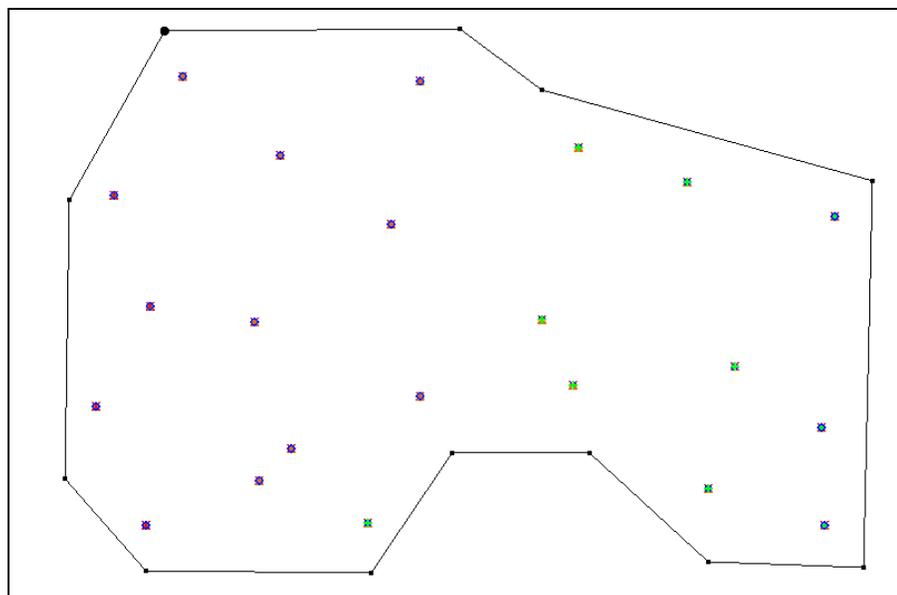

Figure 2 Closed arc enclosing the scatter points
3. Using the **Create Arc**  tool, click out a closed arc as shown in Figure 2. Double-click on the starting point to finish creating the closed arc.